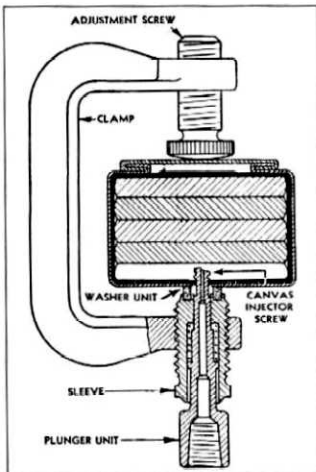

Fig. 30—Spring Lubricating Clamp
3. Set the adjustment screw of the lubricating clamp (fig. 30) until the width of the clamp